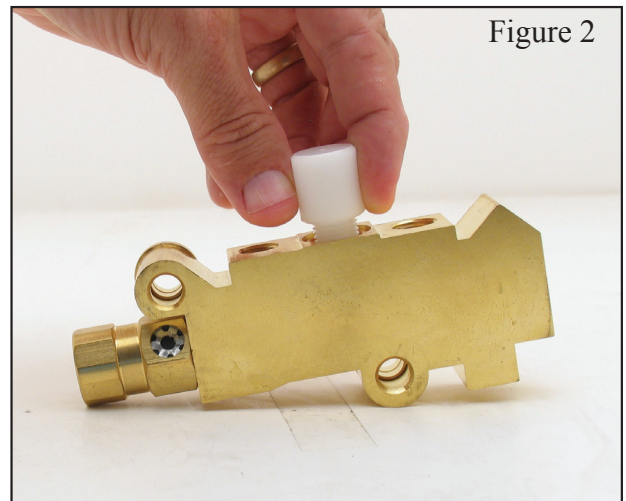

Figure 2
3. Screw the PV-TOOL proportioning valve lock into the sensor switch hole on the proportioning valve (Figure 2).